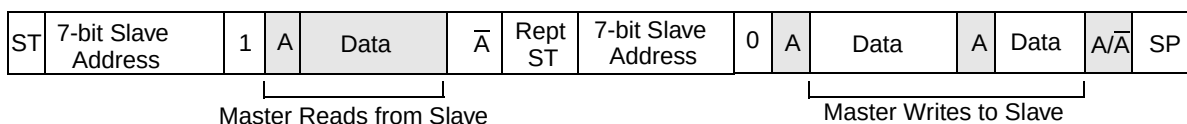

Figure 24-11. Data Transfer, Combined Format
- The first example in Figure 24-11 is the case of master-transmitter transmitting to slave-receiver. The transfer direction is not changed.
- The second example in Figure 24-11 is the master reading the slave immediately after the first byte. At the moment of the first acknowledge, the master-transmitter becomes a master-receiver and the slave-receiver becomes slave-transmitter.
- In the third example in Figure 24-11, START condition and slave address are repeated using the repeated START signal. This is to communicate with same slave in a different mode without releasing the bus. The master transmits data to the slave first, and then the master reads data from slave by reversing the  $R/\bar{W}$  bit.